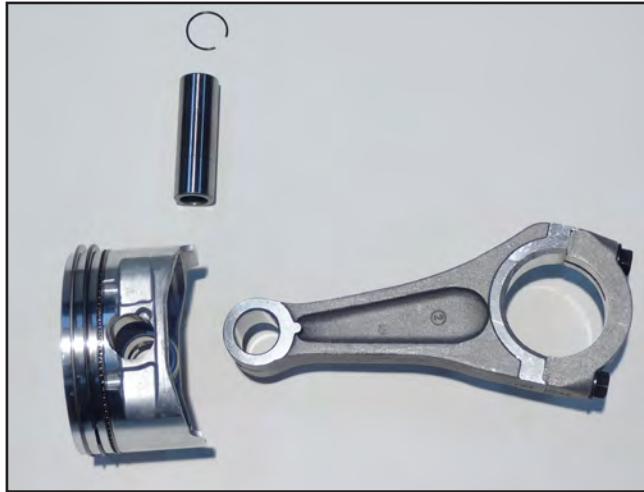

Figure 7
1. Gather matching components for the #1 cylinder (piston, wrist pin, two clips, connecting rod, cap and bolts) (Figure 7).